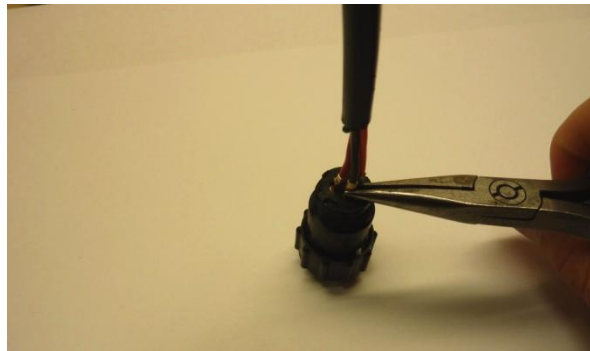

Figure 29: Use needle-nose pliers to push the pins further into the plug.
Step 7: Next use needle nose pliers to insert the pins further by grabbing the first crimp location and pushing all the way into the connector body. It helps if you place the connector face down on a table to provide extra leverage. It is critical that the pins are pushed as far into the connector body as possible. See Figure 29.